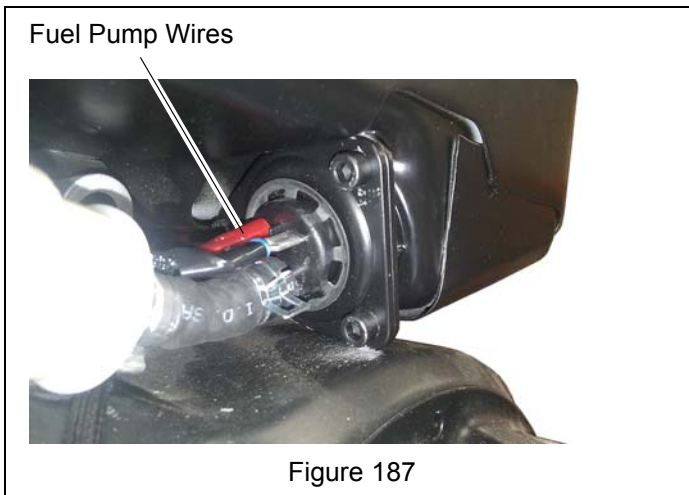

Figure 187
4. Check fuel pump wiring to ensure it is connected correctly. See Figure 187.